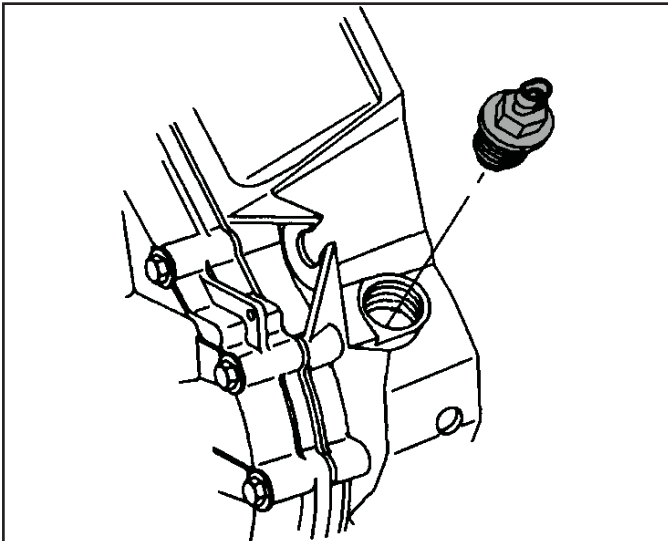

Figure 60
7. With the same wrench, remove the output shaft speed sensor (See Figure 60).